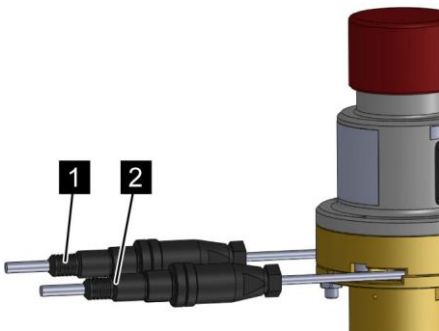

Fig. 93: Round plugs
8. ➤ Screw the connectors of the provided cables onto the round plugs (Fig. 93/1+2) of the connecting cable of the micro switches and connect them to the fire extinguishing detection system (only for electrical release devices with blocking device).